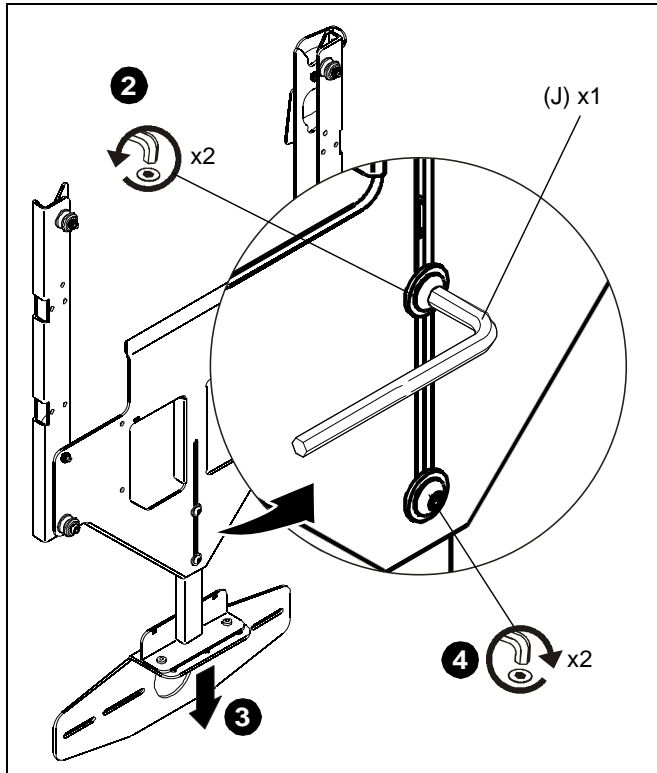

Figure 3
1. Loosen two button head cap screws securing speaker mounting bracket to support plate using 1/8" hex wrench (J). (See Figure 3)
2. Reposition speaker mounting bracket to lowest position. (See Figure 3)
3. Tighten two button head cap screws securing speaker mounting bracket to support plate using 1/8" hex wrench (J). (See Figure 3)